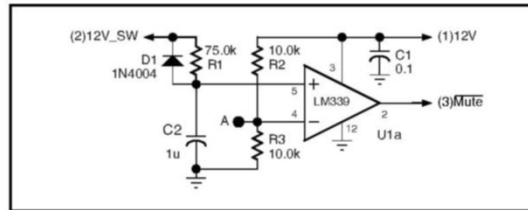

Figure 12: The purpose of the Power On Reset (POR) is to ensure that the speaker control flip-flop has a hard Low on its reset pin.
The purpose of the POR (**Figure 12**) is to ensure that the speaker control flip-flop (3)U1 has a hard Low on its Reset pin at 12V_SW power-up. This function is implemented by comparator U1a. Point A is biased at 6V, which holds U1a's output and the Mute(–) line Low until 12V_SW goes High and C2 charges to > 6V. This takes approximately 52ms. After the brief delay, U1a's output goes High. Note, however, that several open collector devices are wire-ORed at the (3)Mute(–) node, so this point may still be held Low.